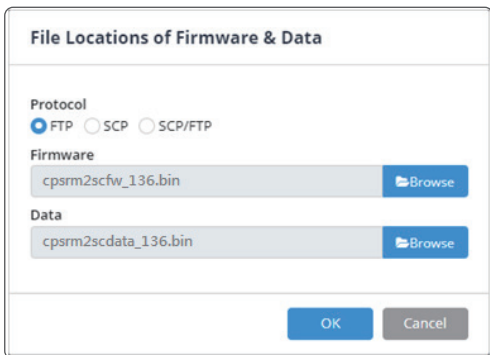

Figure 5. The File Locations of Firmware & Data window
- Select the Firmware and Data files and click “OK” to implement firmware upgrade, as shown in Figure 5.